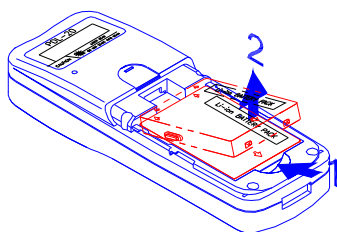

Fig 4
- c. Press the battery against the **PDL-20**, and lift it up and away from the compartment, as Fig 4 shows.
- a. Remove the battery from the battery compartment as shown in Fig 4.